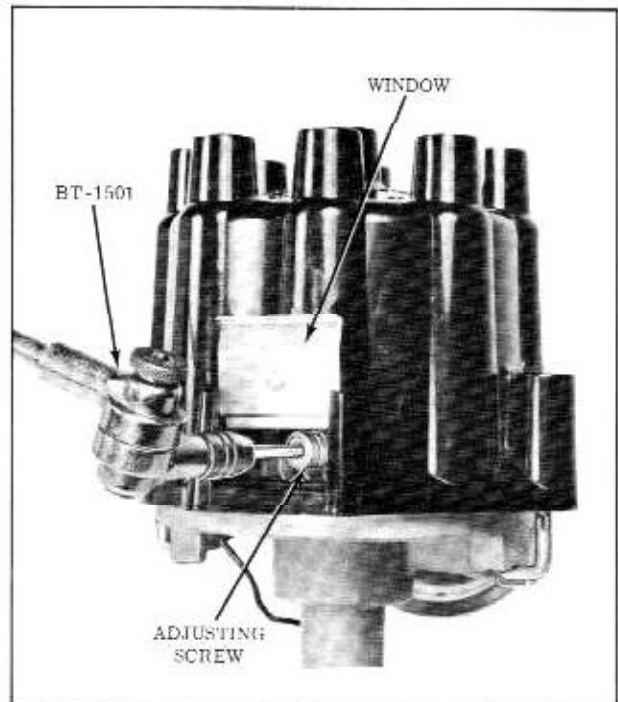

Fig. 13-67 Adjusting Dwell
6. Start the engine and with the engine running at idle speed insert dwell adjusting Tool J-6296 or BT-1501 through the distributor window into the Allen head of the adjusting screw as shown in Fig. 13-67. Adjust the dwell angle to 30°.
9. Start the engine and with the engine running at idle speed insert dwell adjusting Tool J-6296 or BT-1501 through the distributor window into the Allen head of the adjusting screw as shown in Fig. 13-67. Adjust the dwell angle to 30° .